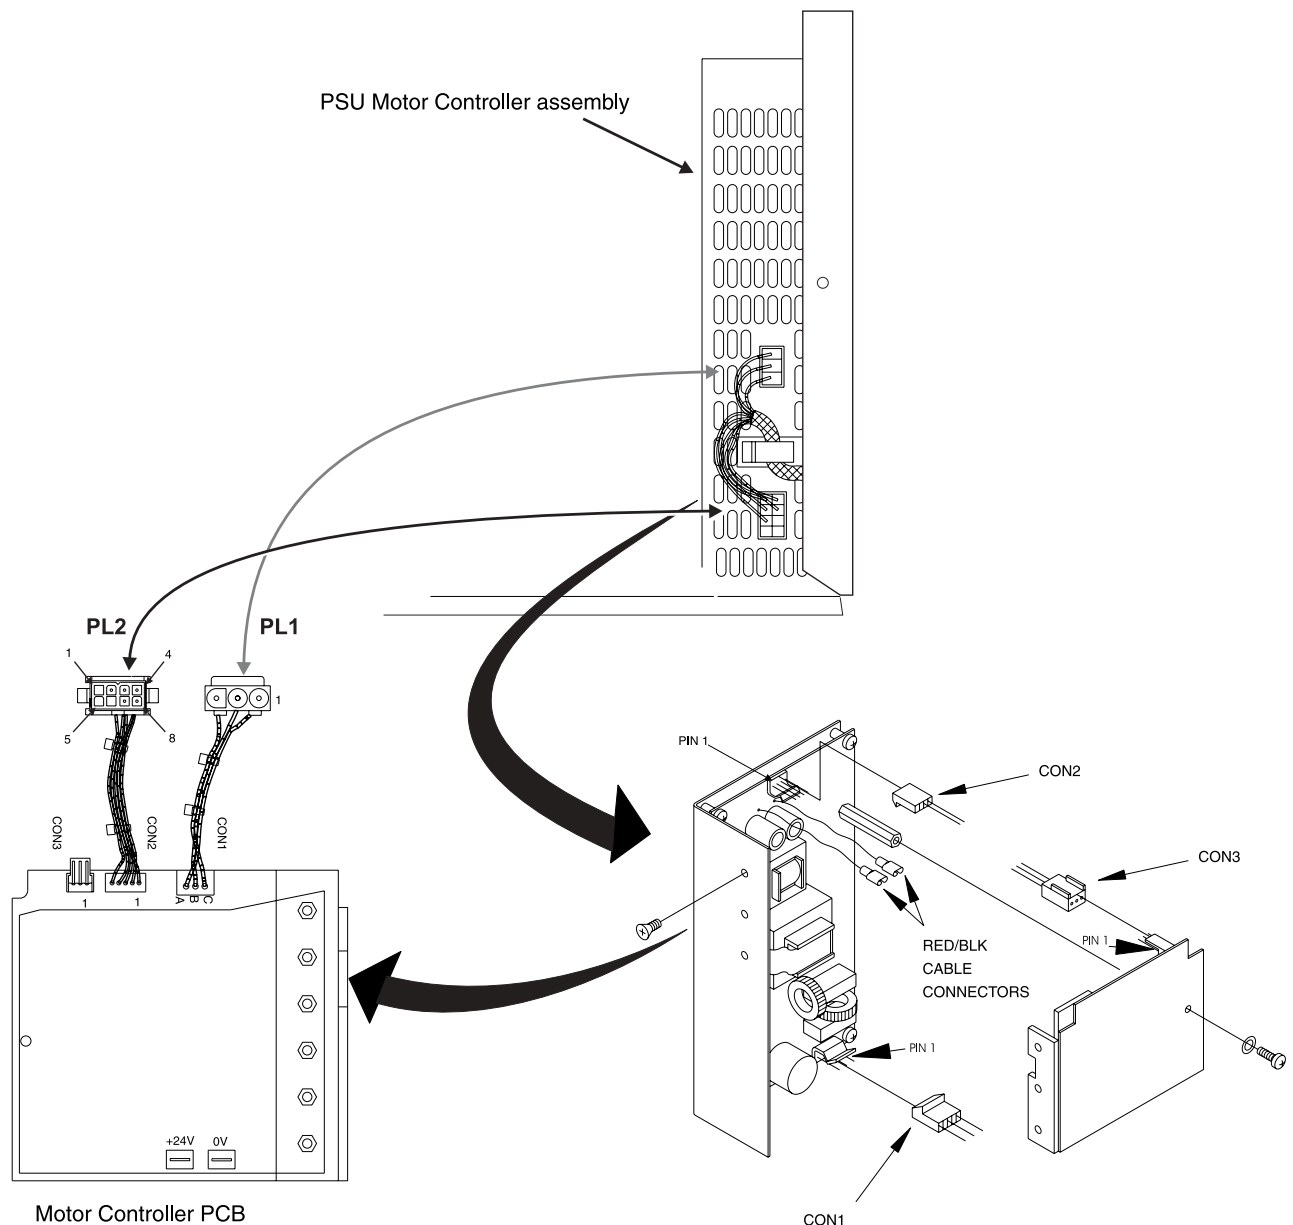

Figure 5-1 PSU and Motor controller PCB connections
- b. Disconnect PL1 (motor drive loom) from pump power supply (Figure 5-1).
- c. Apply power. Using the DVM, check on pump power supply (Figure 5-1) for 5V DC ± 0.5 V between PL2 pin 2 (red) and pin 7 (black). PL2 is the 8-pin connector clipped into the side of the PSU.
- b. Disconnect PL1 (motor drive) from pump power supply (Figure 5-1).